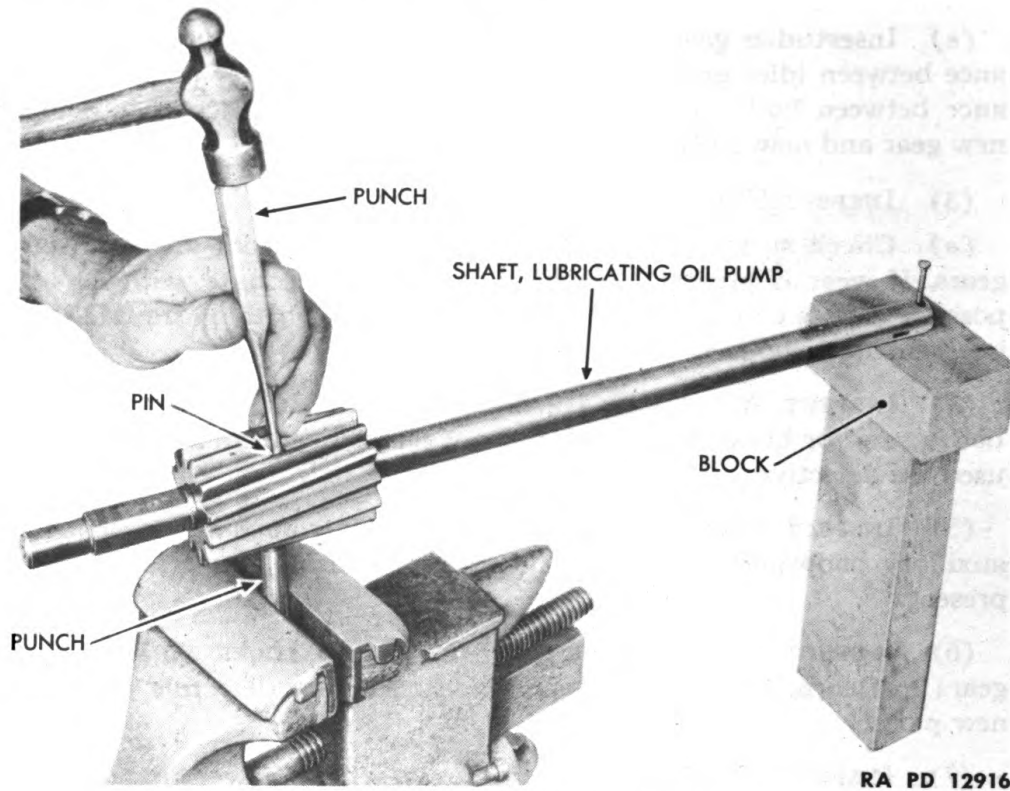

Figure 104—Locking Pin Which Holds Lubricating Oil Pump Body Gear on Shaft
(1) **INSTALL BODY GEAR TO SHAFT** (fig. 104)